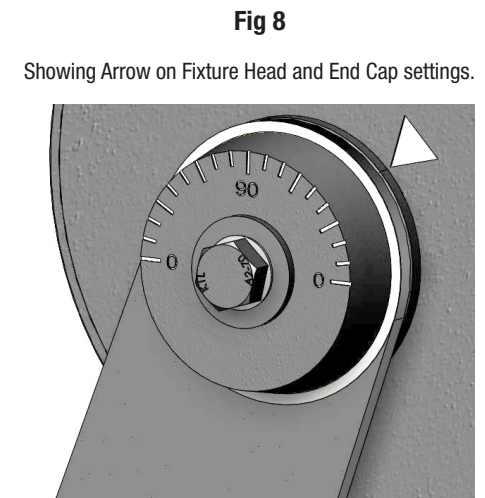

Fig 8
- 8) The 90° position on the End Caps should face straight up. The Bolts can be loosened and tightened as needed to adjust the light direction setting. **Fig 8**